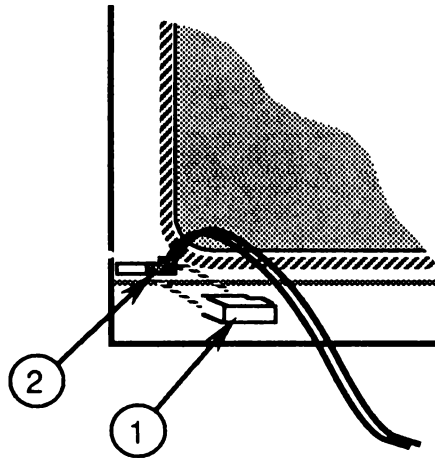

FIGURE 56
1. Position the LED assembly in its appropriate place inside the front bezel (Figure 56, #2).
2. Replace the clear plastic cap (Figure 56, #1) that secures the LED to the front bezel.